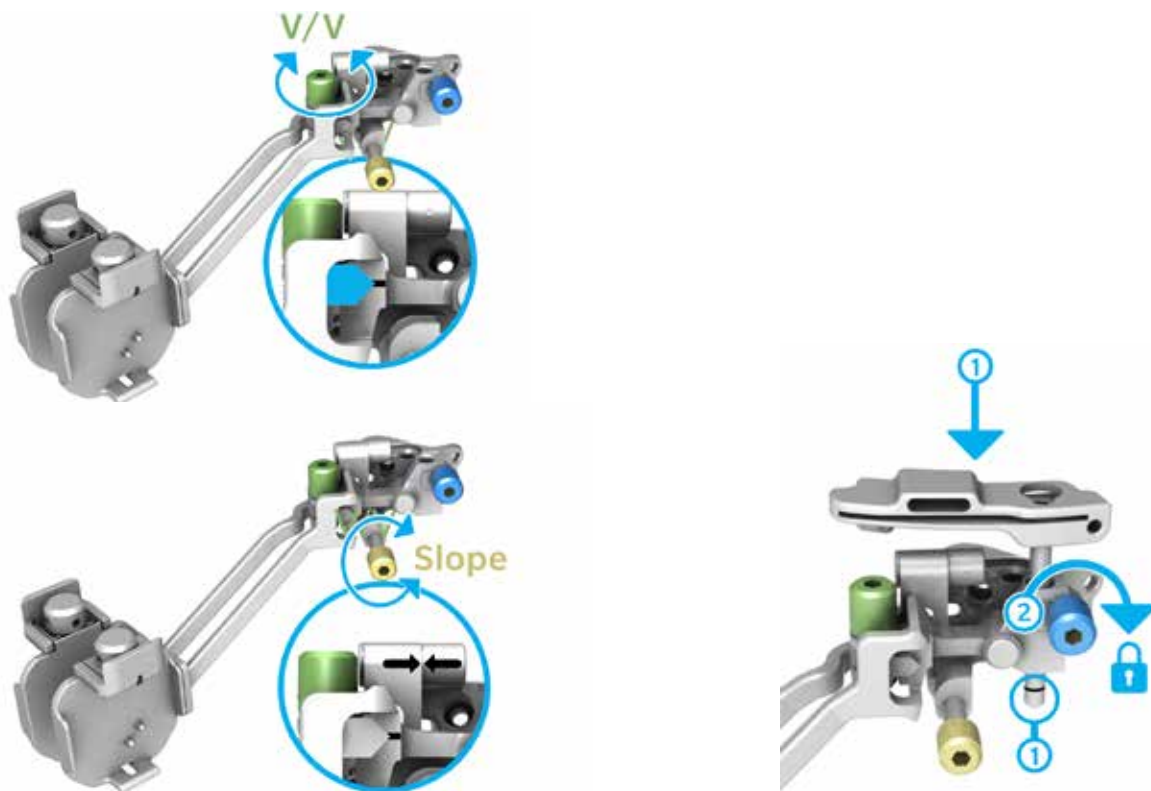

Figure 19
1. Using the green screw, set the varus/valgus of the tibial adjustment mechanism to the neutral position by aligning the arrow with the laser marking (V/V). (Figure19)
2. Using the gold screw, set the tibia slope of the tibial adjustment mechanism to the neutral position by aligning the laser marked arrows (slope) respectively. (See Figure 19)